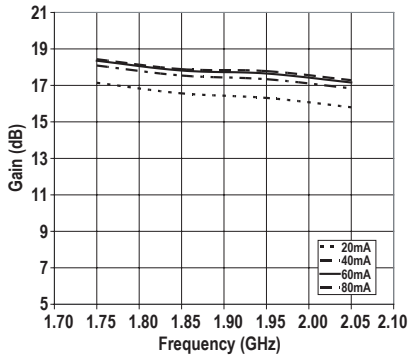
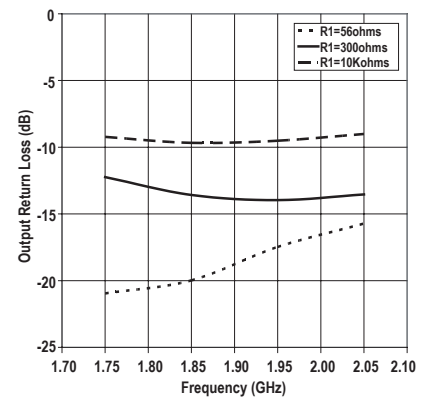

Figure 4. Gain Vs Frequency and Id
Figure 21. Output Return Loss vs Frequency and R1
- List 1 – Demo Board Component values for Demo board Schematic of Fig. 29. These component values are used when measuring electrical specifications and plots of Fig. 4 to Fig. 21.